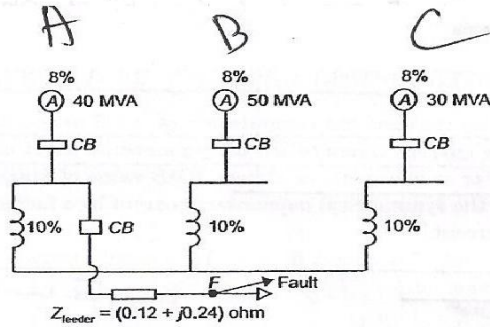

Fig. 8.5: Circuit diagram of Example 8.3.
**Example 3.3:** Three 11.2 KV generators are interconnected as shown in Fig. 8.5 by a tie-bar through current limiting reactors. A three phase feeder is supplied from the bus bar of generator A at a line voltage 11.2 KV. Impedance of the feeder is (0.12 + j0.24) ohm per phase. Compute the maximum MVA that can be fed into a symmetrical short circuit at the far end of the feeder.